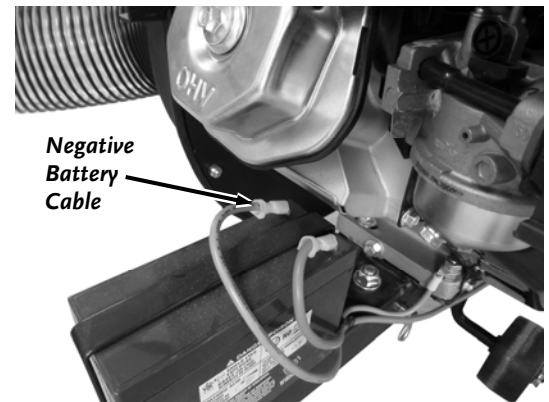

Figure 60
1. Connect the Negative Wire to the Negative Post on the Battery by sliding the Terminal onto the Battery Post (**Figure 60**).